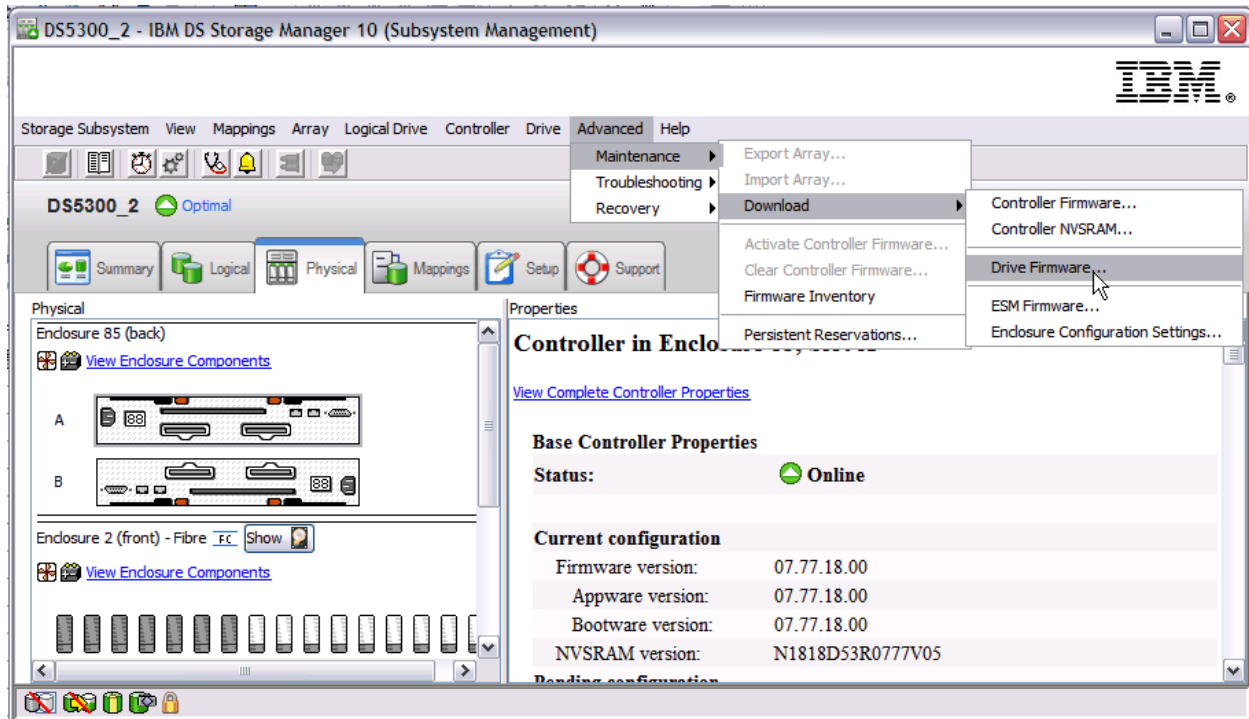

Figure 5-21 Drive firmware update
1. To start the hard disk drives firmware update process, select **Advanced** → **Maintenance** → **Download** → **Download Drive Firmware...**, as shown in Figure 5-21.
2. Start the wizard and a window opens, as shown in Figure 5-21 on page 304. Click **Next >**.